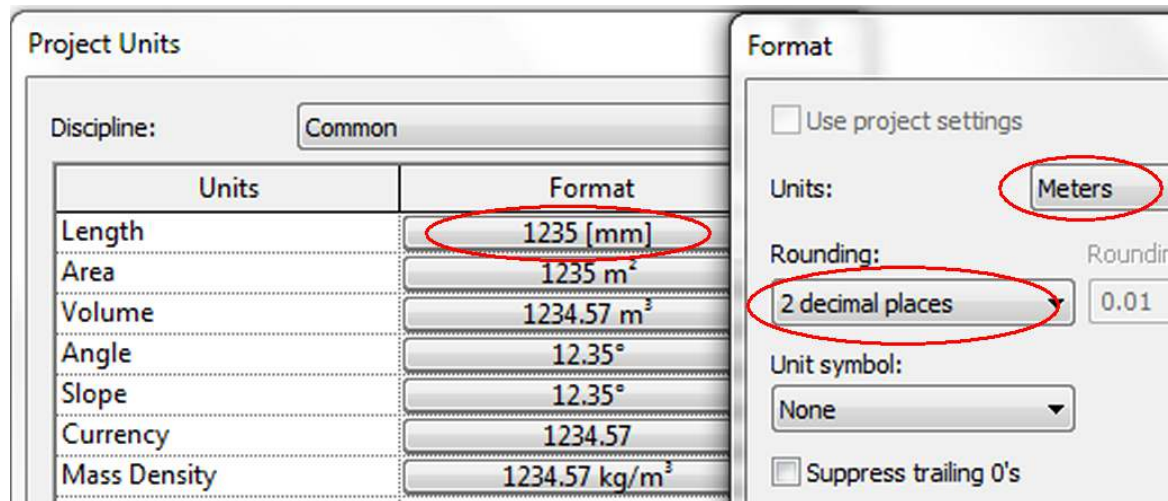

Fig. 1.9 – Project Units
4. Set Project Units = Meters with rounding up to 2 decimal places as shown in Fig 1.9.